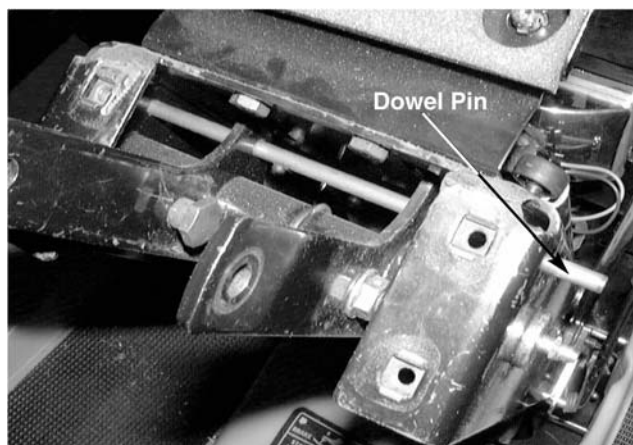

Figure 10-12.
20. Insert a 1/4" by 7" dowel pin or equivalent through the upper alignment hole of the support tower, through the upper left and right bellcrank assemblies, and out the opposite side of the support tower. See Figure 10-12.